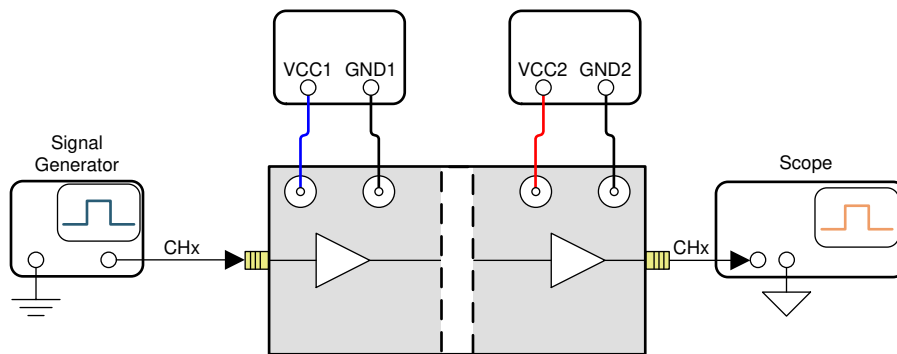

**Figure 2-2. ISO7742U and ISO7742UF Pin Configuration**
Figure 2-1 and Figure 2-2 shows the pin configuration of ISO7741U(F) and ISO7742U(F) devices. Refer Table 1-1 for detailed comparison between different variants of the device family